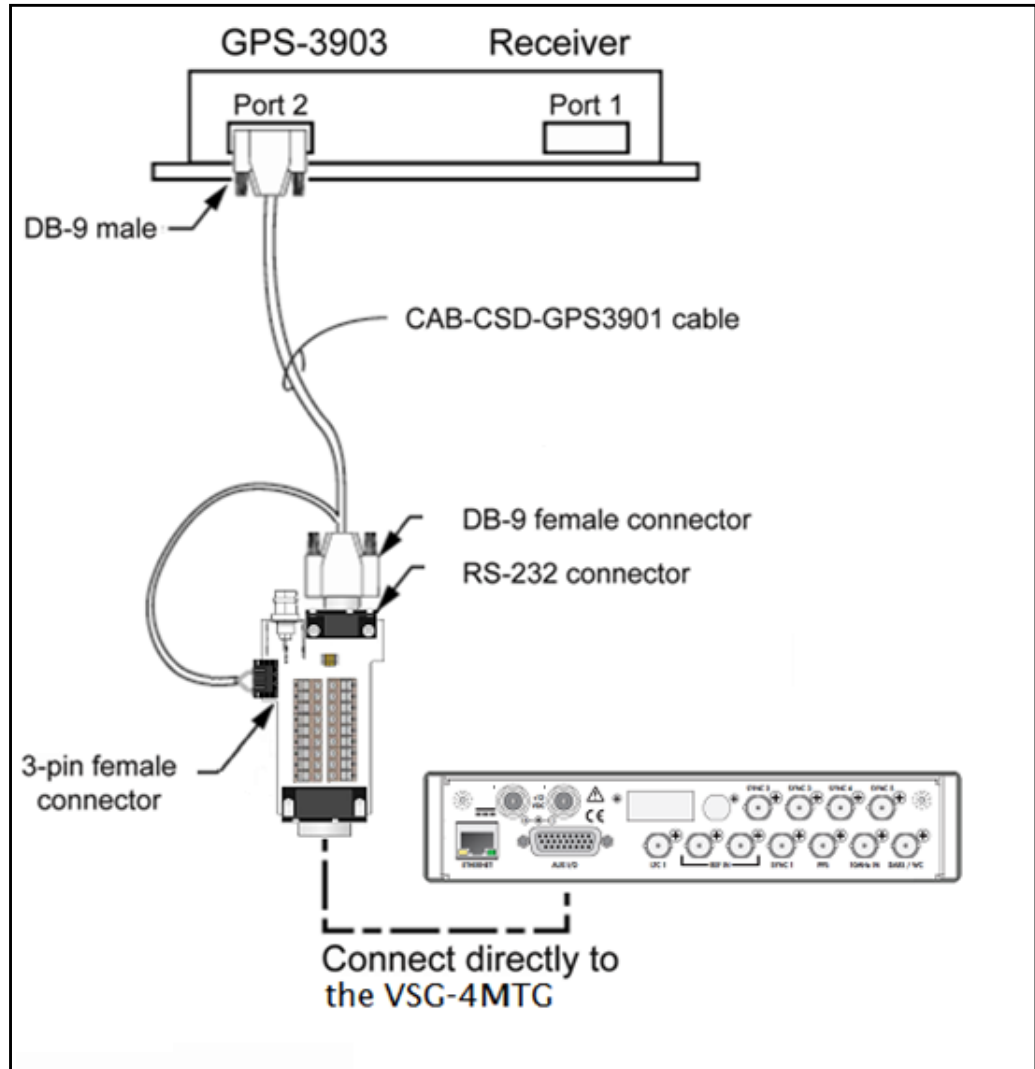

Figure 2-7 VSG-4MTG/VSG-4CSD to GPS 3903 Receiver Connections
Follow these steps to connect the VSG-4MTG/VSG-4CSD to the GPS 3903 receiver. **Figure 2-7** illustrates the required connections.
- 3 Attach the 9-pin female RS-232 of the cable to the 9-pin male RS-232 connector on the breakout board, as shown in Figure 2-7.